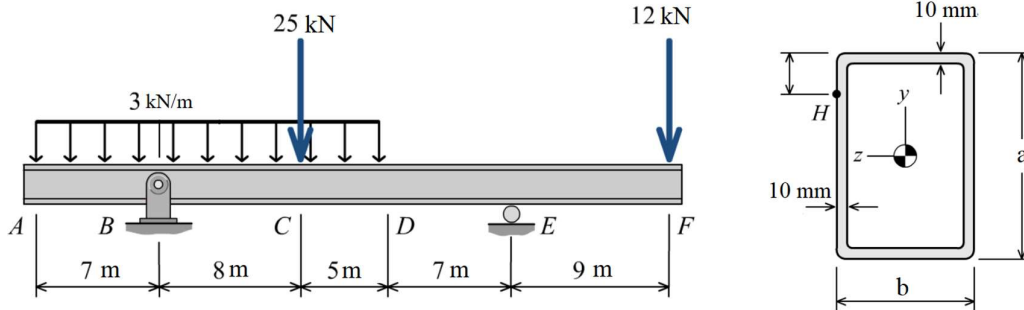

Figure 3
3. A simply supported beam supports the loads shown in the Figure 3. The cross-sectional dimensions of the beam with the height of $a = 400 \text{ mm}$ and width of $b = 300 \text{ mm}$.